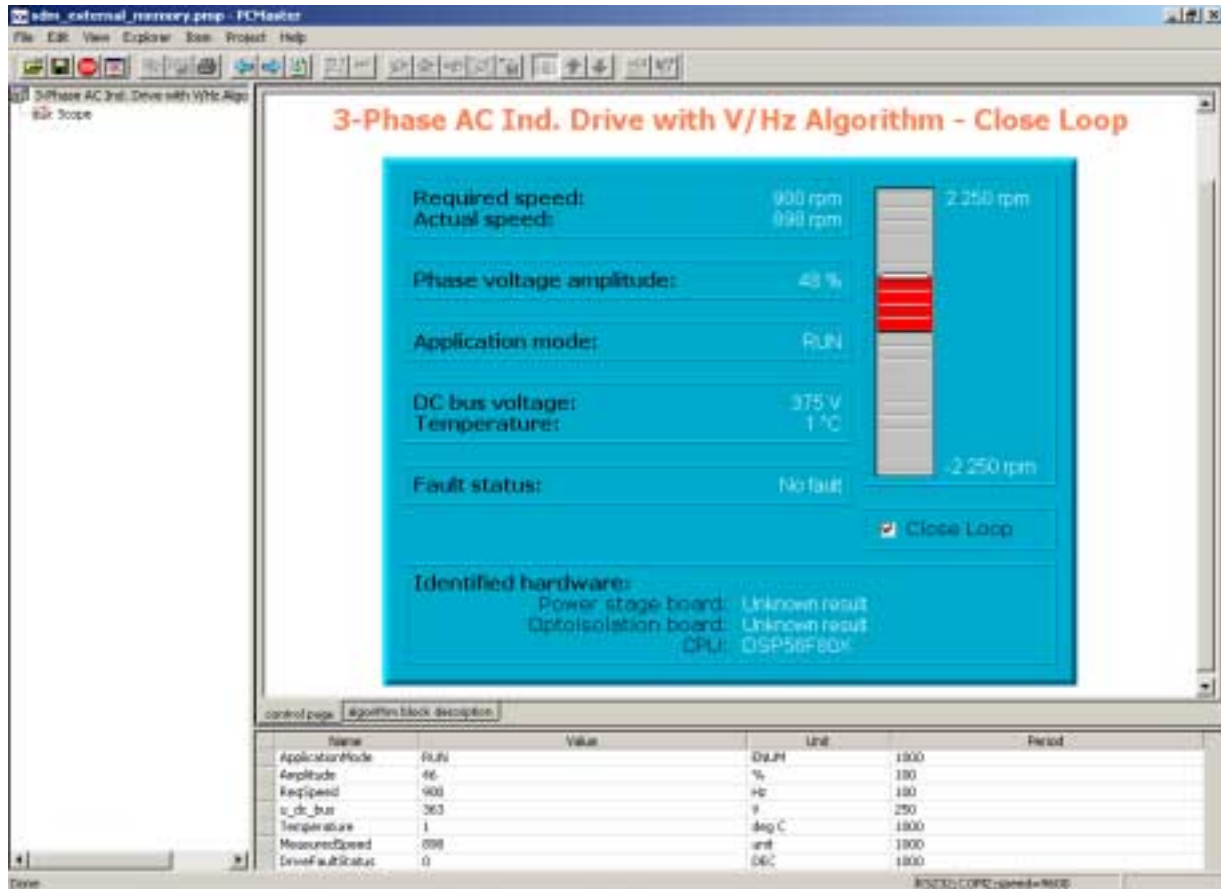

Figure 1-3. PC Master Software Control Window
- Set Close/Open loop by checking/unchecking the “Close Loop” checkbox; see Figure 1-3
Start the PC master software window's application and choose the PC master software project for the desired PC master software Operating Mode. Figure 1-3 shows the PC master software control window for **internal pROM-xRAM.pmp**.